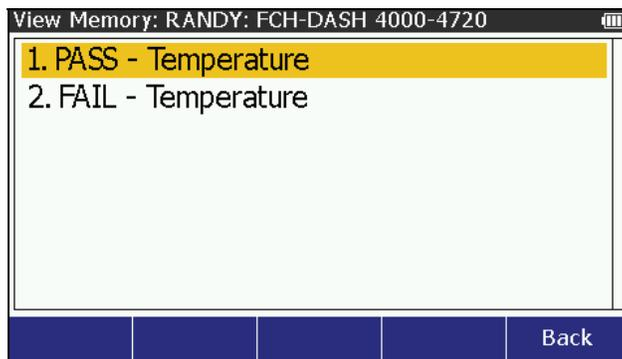

Figure 59. Test Results Screen
8. Push **ENTER** to show the test results data saved for the test ID. See Figure 59.